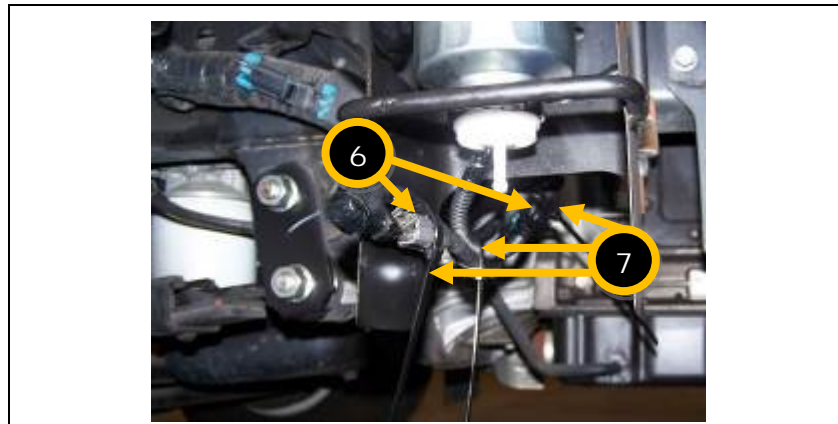

Figure 7 – Secure Wiring Harness
6. Connect the new wiring harness at the (2) two points (see Figure 7).
7. Secure the wiring harness with the new band clips/zip ties underneath the sedimenter mounting bracket (see Figure 7).